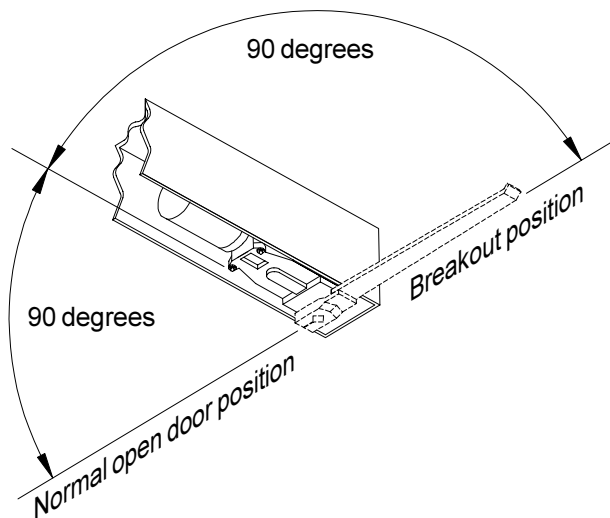

Figure 11-2
- 11.3. The operator is shipped from the factory with the spindle in the breakout position, so the arm must be oriented in the breakout position when installed on the spindle. Before installing the arm, determine the arm breakout position (Figure 11-2).
2. Note position of operator spindle. Turn on operator power. Momentarily short activation wires so spindle slowly rotates toward full open position and stops. Continue doing this until spindle reaches full open position (refer to Figure 11-2), then join activation wires together with a wire nut.